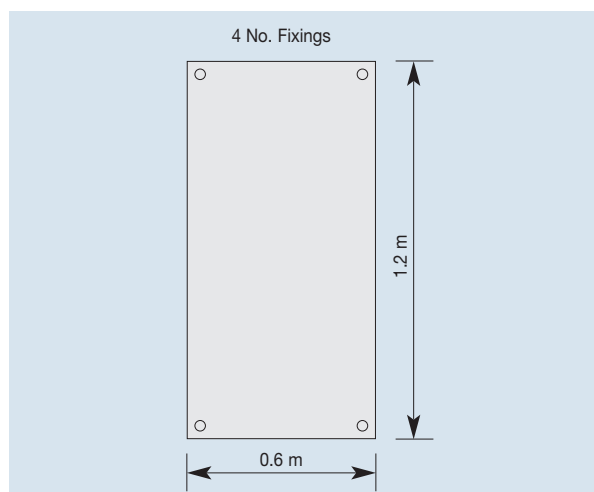

Figure 1 Typical Mechanical Fixing Pattern
Concrete decks should be clean, dry, without large projections, steps or gaps, and should be graded to allow correct falls to all rainwater outlets. To ensure an adequate bond between the vapour control layer and the concrete deck, the concrete or screeded surface should be suitably primed, in accordance with the specified manufacturer's instructions. The vapour control layer should be fully bonded to the deck and similarly the *Kingspan Thermo*roof TR20 to the vapour control layer by laying into hot bitumen mopped or poured over the vapour control layer or with the use of suitable alternative proprietary adhesive systems. However, advice should be sought from the appropriate manufacturer of the adhesive system for their recommendations on the correct procedure for application rates and application temperatures. Alternatively the boards can be secured using mechanical fixing systems (see Figure 1). The boards should be laid break-bonded with all joints lightly butted.
*Kingspan Thermo*roof TR20 should be fully bedded in hot bitumen or with the use of suitable alternative proprietary adhesive systems. However, advice should be sought from the appropriate manufacturer of the adhesive system for their recommendations on the correct procedure for application rates and application temperatures over a continuous vapour control layer, which has been nailed or fully bonded to the deck, with laps at the side and end sealed with either the use of hot bitumen or one the alternative proprietary adhesive systems as detailed previously. Alternatively the boards can be secured using mechanical fixing systems (see Figure 1). The joints should be break-bonded and the boards laid at right angles to the edge of the roof or diagonally across the roof. All joints should be lightly butted.
On woodwool slab decks, *Kingspan Thermo*roof TR20 should be fully bedded in hot bitumen or with the use of suitable alternative proprietary adhesive systems. However, advice should be sought from the appropriate manufacturer of the adhesive system for their recommendations on the correct procedure for application rates and application temperatures over a continuous vapour control layer. Boards should be laid with their long edges at right angles to the slabs, or preferably diagonally across the roof. Alternatively boards can be secured using specialist mechanical fixing systems (see Figure 1). Board joints should not coincide with those of the slabs. The roof boards should be laid break-bonded, with all joints lightly butted.
The requirement for additional fixings should be assessed in accordance with BS 6399-2: 1997 (see Figure 1).